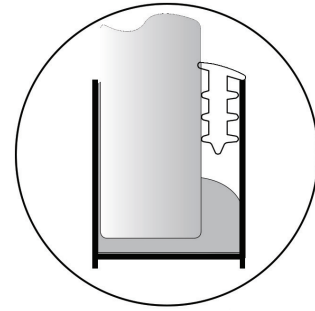

FIG 13.
- Starting at the top of the wall channel, from outside shower, spray with warm soapy water then insert rubber wedge seal into gap (removing timber wedges if used). (FIG 13) Leave rubber wedge protruding 40mm at top to cut off later.